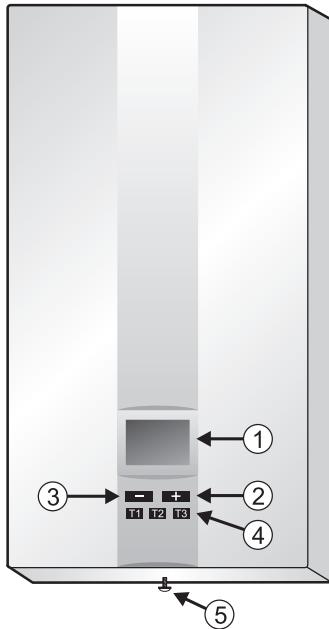
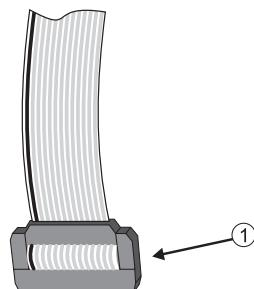

Fig. 1 Heater housing
Fig. 2 Display board with ribbon cable
4. Unscrew the fastening screw which holds the housing of the heater located at the bottom of it (Fig. 1), take off the cover and disconnect the ribbon cable by taking the plug out of the socket marked "LCD" (Fig. 2).
12. Connect the ribbon cable by inserting the plug with the proper side to the socket marked "LCD", see (Fig. 2).
Setting the temperature of water is done by pressing one of the buttons located under the display marked “–” and “+” (Fig. 1) in the range from 30°C to 60°C accurate every 0.5°C. Detecting the flow greater than 2.7 l/min by the heater system will result in switching off the device. The lines of the barograph (lower part of the display) show the power with the heater heats the water. The appearance of one line means the heater is heating with the power not smaller than 10% and not greater than 20% of the rated power. The appearance of five lines means the heater is heating with the power not smaller than 50% and not greater than 60% of the rated power. The appearance of all ten lines means the heater is heating with full power. The signalling by the heater that it is heating with full power is the information for the user to decrease the consumption of water or decrease the set temperature because the power of the device at a given moment is not small to heat up water to the desired temperature. After each start or change of the set temperature, the heater measures temperature of outlet water every 10 seconds. If two temperature measurements are the same it means the temperature has stabilized and the electronic system can compare it with the set temperature. In case when the obtained temperature is smaller from the set temperature due to the drop of the mains voltage, the heater increases the power automatically, so that the water temperature achieved the desired value.
2. Unscrew the fastening screw located at the bottom of the housing (Fig. 1), then take off the housing holding it at such a distance from the heater that the ribbon cable connecting the display with the heater was not tightened, and then disconnect the cable by plugging it out of the socket marked "LCD" (Fig. 2).
10. Connect the ribbon cable of the display board (Fig. 2).
- disconnected ribbon cable connecting the controller board with the display (Fig. 2).
2. Upper housing (fig. 1)